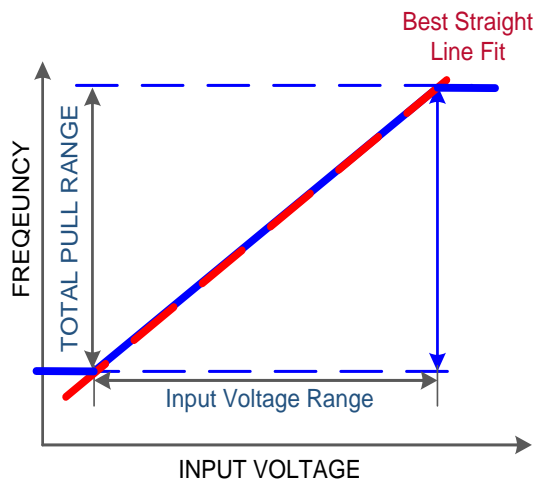

Figure 38. Typical SiTime VCTCXO Linearity
In any VCTCXO, there will be some deviation of the frequency-voltage (FV) characteristic from an ideal straight line. Linearity is the ratio of this maximum deviation to the total pull range, expressed as a percentage. **Figure 38** below shows the typical pull linearity of a SiTime VCTCXO. The linearity is excellent (1% maximum) relative to most quartz offerings because the frequency pulling is achieved with a PLL rather than varactor diodes.